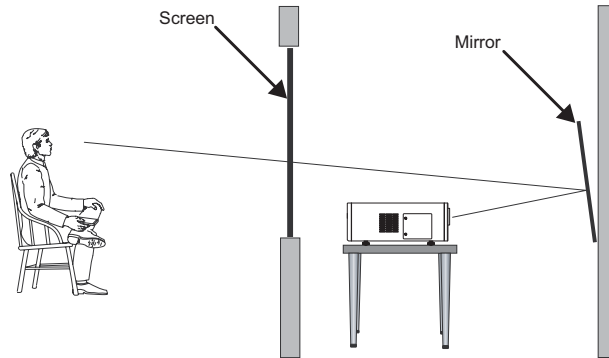

Figure 3-5. Folded Optics
- Folded Optics** ➤ In rear-projection applications where space behind the projector is limited, a mirror may be used to fold the optical path, as shown in Figure 3-5. The position of the projector and mirror must be accurately set.